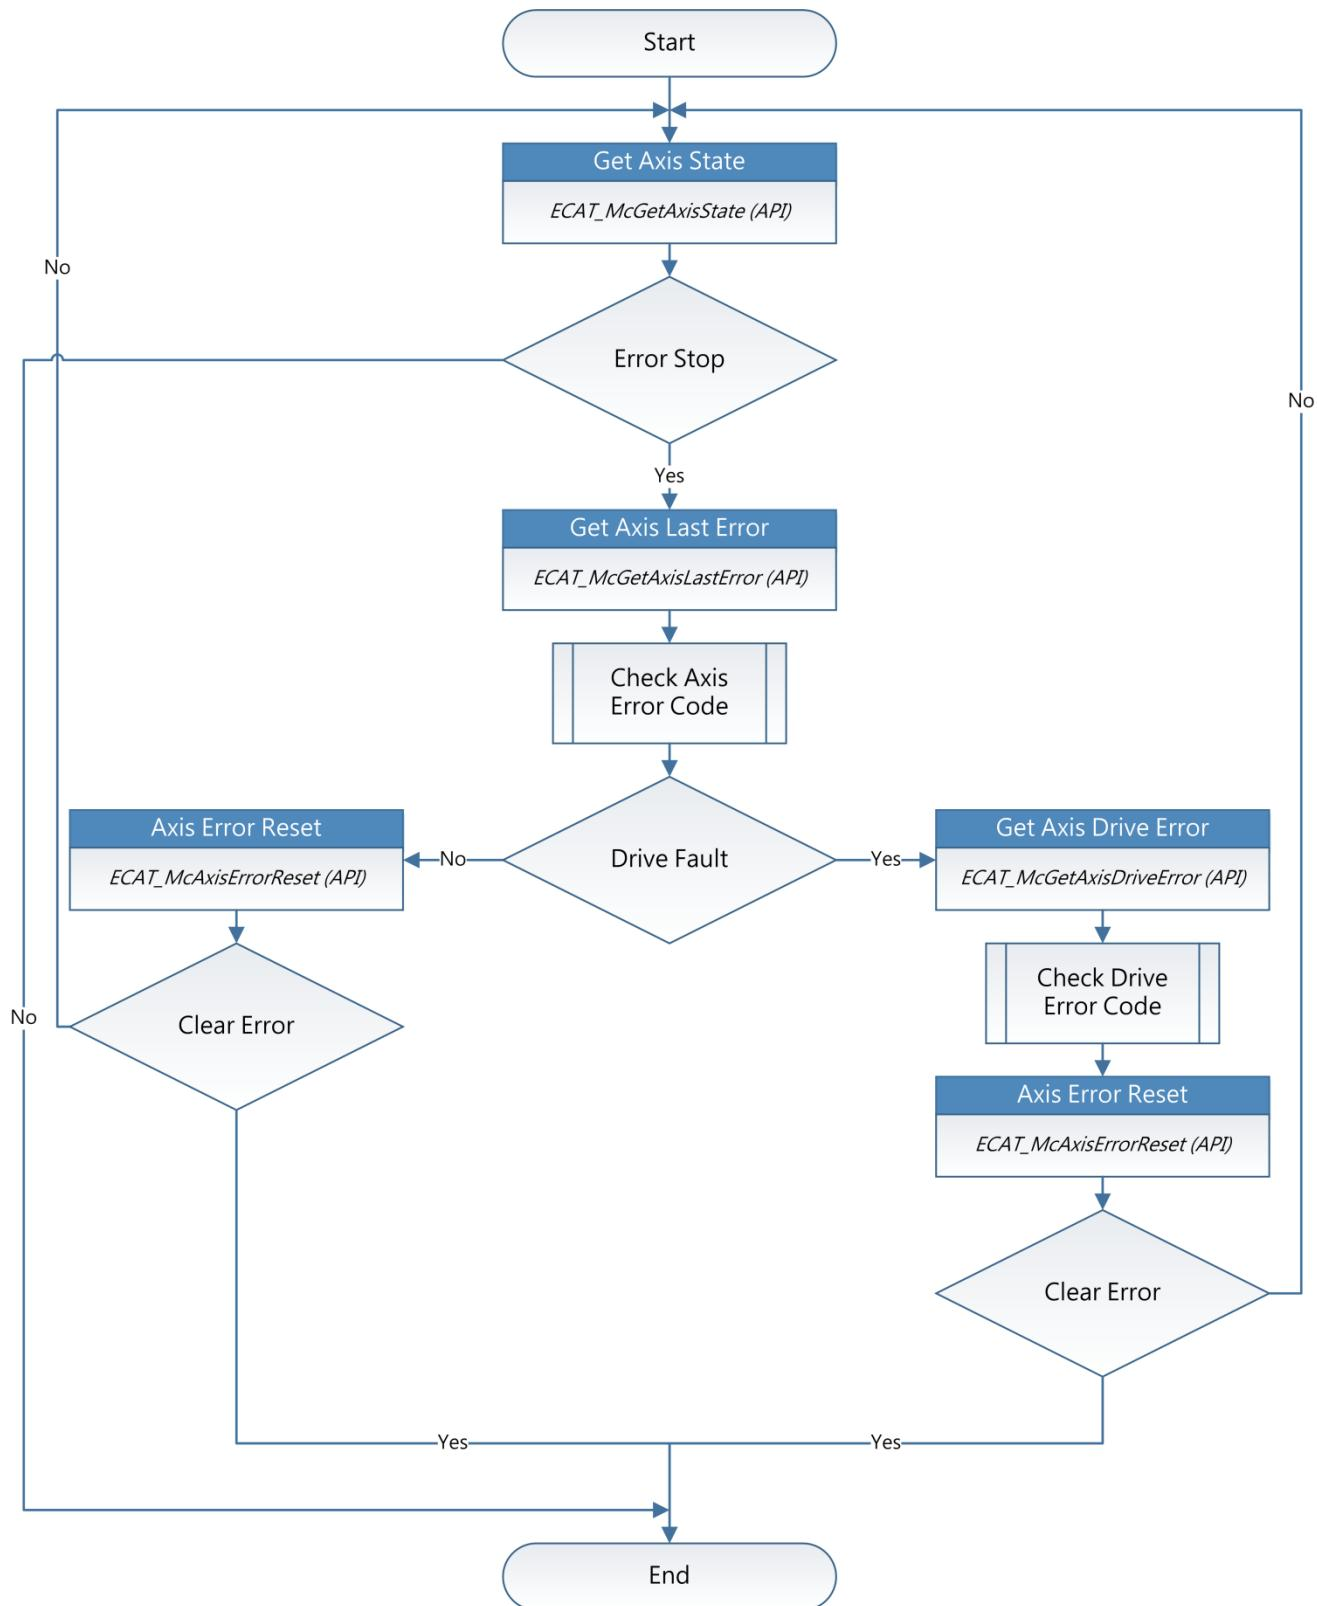

Figure 4.6
As shown in Figure 4.6, when the axis state is ErrorStop, *McGetAxisLastError* function can be used to get the error code. From the error code, the cause of error can be determined. The error handling includes two parts: (1) If the error is not a servo drive error, the user can call *McAxisErrorReset* to clear the error. The axis state will be changed from ErrorStop to Standstill. (2) If the error comes from a servo drive, *McGetAxisDriveError* function can be called to get the drive's error code, and then call *McAxisErrorReset* to clear its error. Some servo drive errors can be cleared by the reset command; but some cannot.